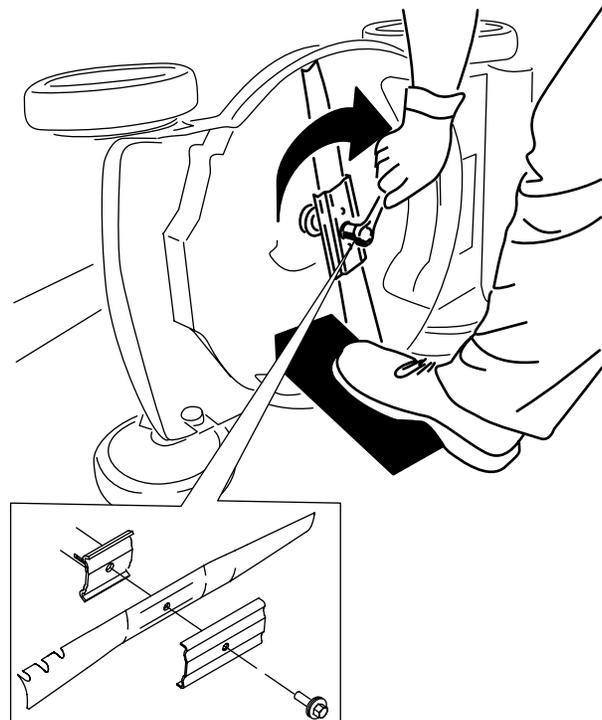

Figure 23
4. Install the new blade and all mounting hardware (Figure 23).